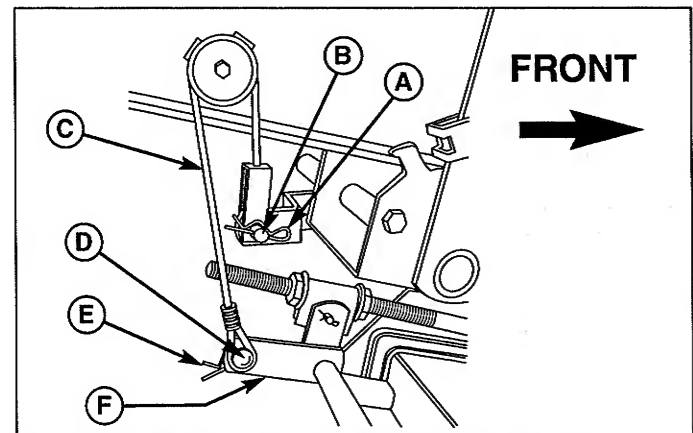

Figure 19. Mower Lift - 50" Manual Lift Models
- See Figure 19. Connect the mower lift cable (C) to the mower lift arm (F) using a clevis pin (D), hair pin clip and washer (E).